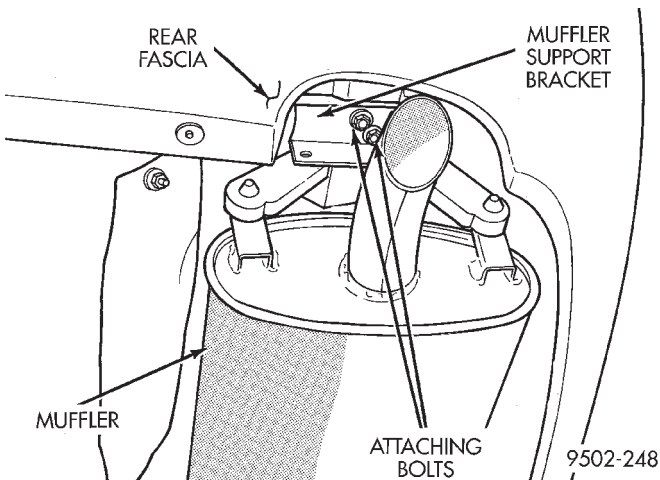

Fig. 3 Muffler Support Bracket
(4) Remove muffler support bracket from rear frame rail (Fig. 3).